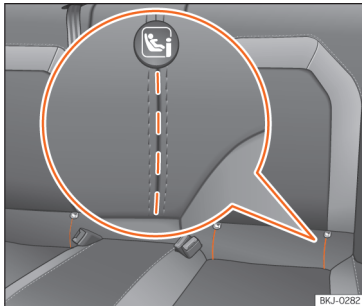

Fig. 37 Rear seat: slots die cut to access the ISOFIX / iSize securing rings.
The location of the ISOFIX or i-Size anchor points is indicated by a symbol »» Fig. 37. In some vehicles, the rings are secured to the seat frame and, in others, they are secured to the rear floor.
- First open the cut-out section behind the marked grooves to access the retaining rings »» Fig. 37.